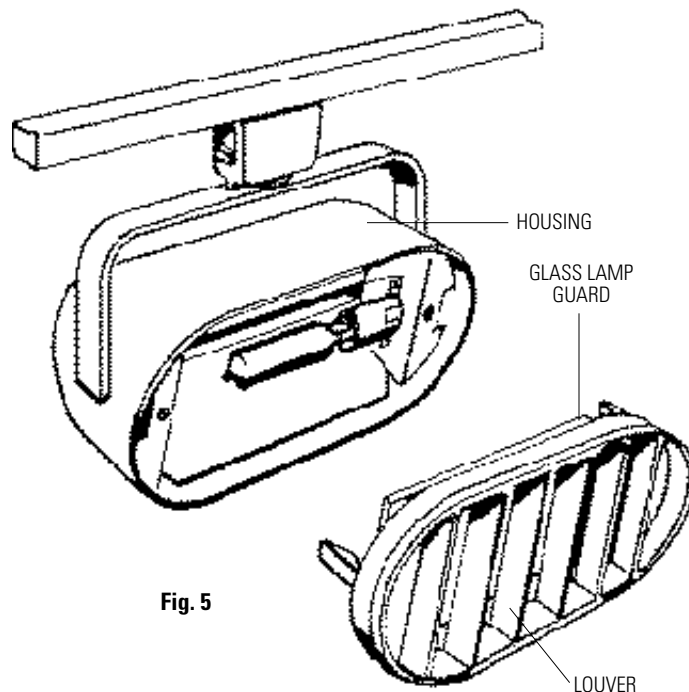

Fig. 5
INSTRUCTIONS FOR LAMPING (Fig. 5 & 6)
1. Remove LOUVER by pulling straight out. (Fig. 5)